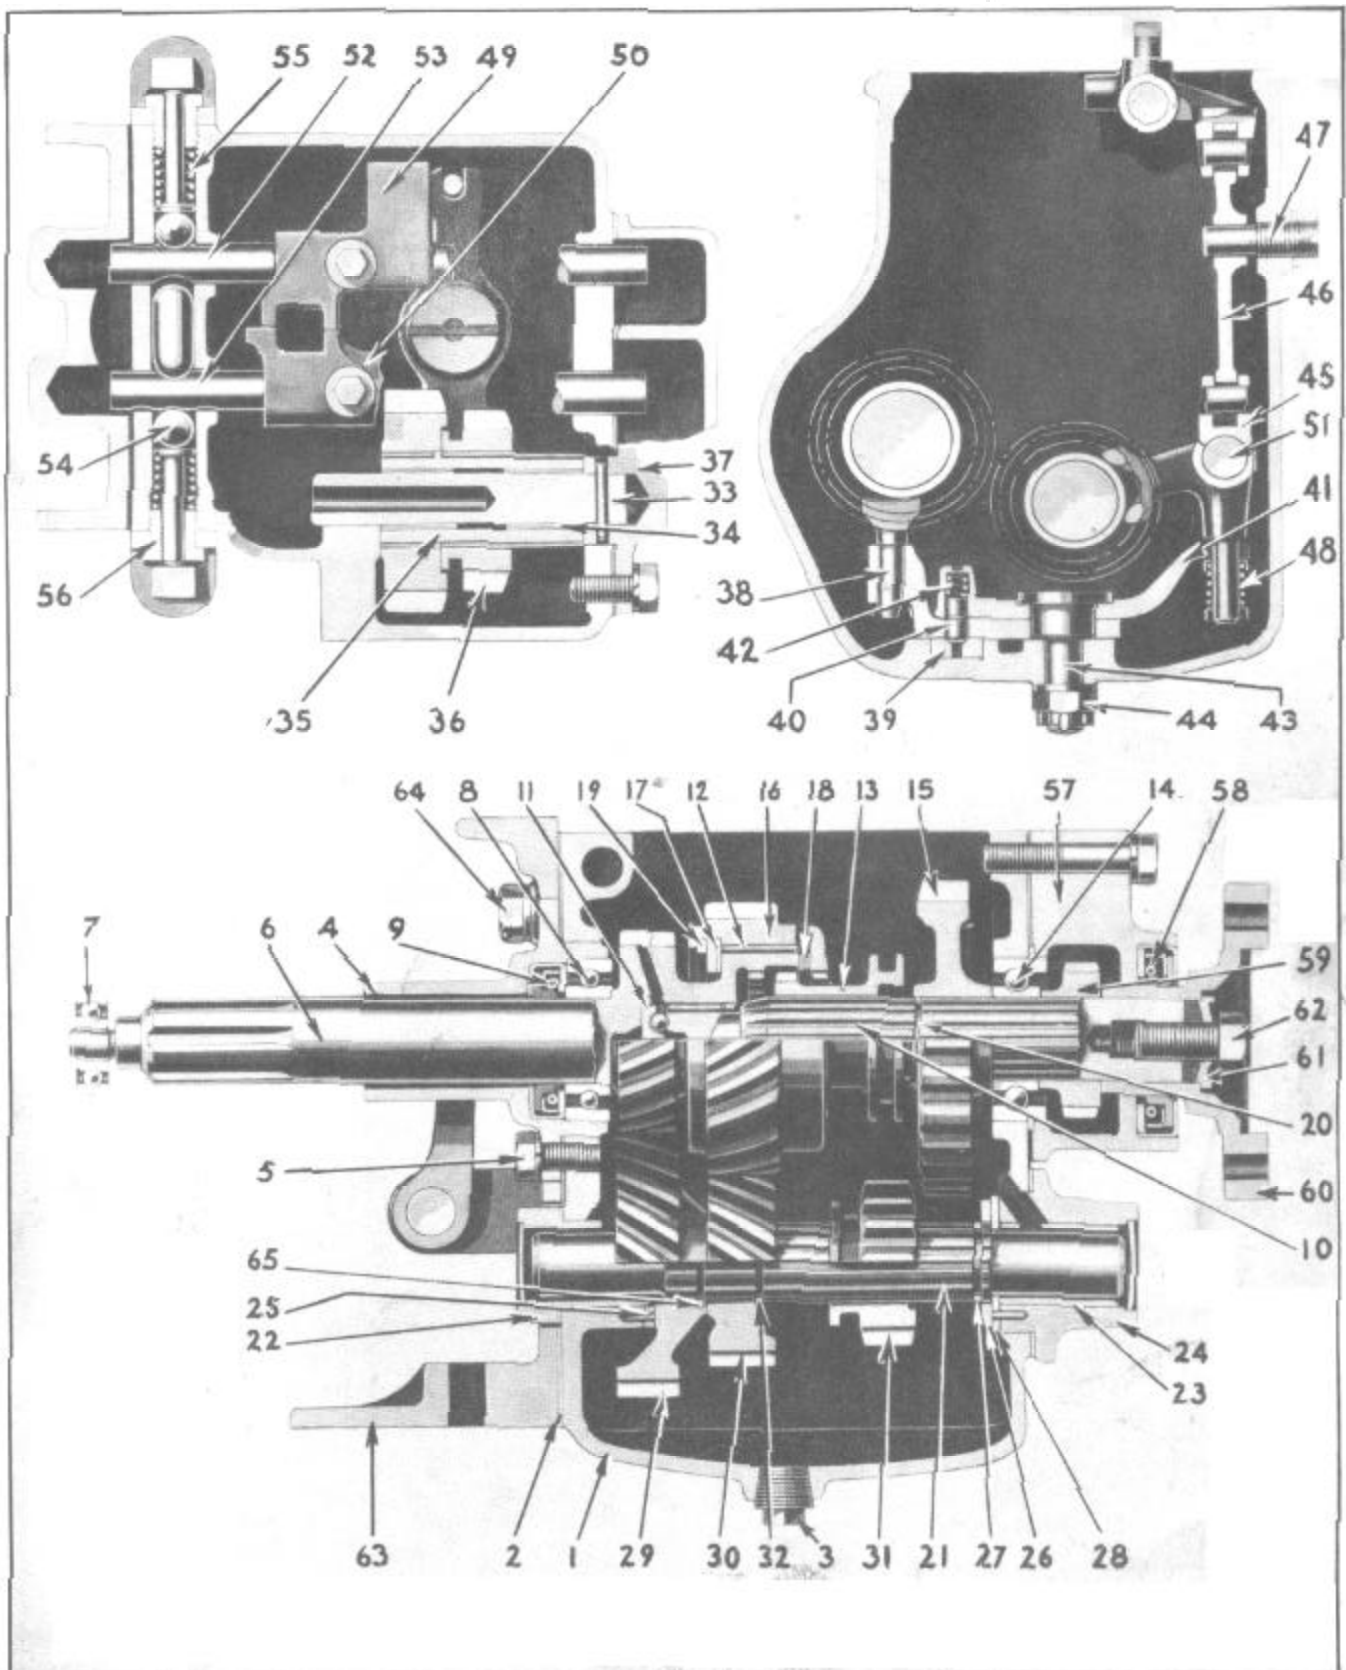

Figure 1--Transmission Assembly
The transmission, Figure 1, is of compact design, incorporating helical cut alloy steel gears in second and high gear positions. Spur gears are used in low and reverse positions.
The main drive gear and mainshaft are supported on two heavy duty annular thrust ball bearings (8 and 14), Figure 1, in the case, an annular ball bearing (7) in the crankshaft and needle roller bearings (12) between the shafts. The end thrust between the shafts is taken by seven ball bearings running in races machined in the ends of the shaft (at front end). Leather oil seals (9 and 58) prevent oil leakage.
The second speed gear (16), Figure 1, is fitted with a babbitt bushing and a two-piece steel-backed copper-lead thrust washer (17) locked in place by means of a heavy steel retaining ring (19) placed in the groove in the second speed gear.